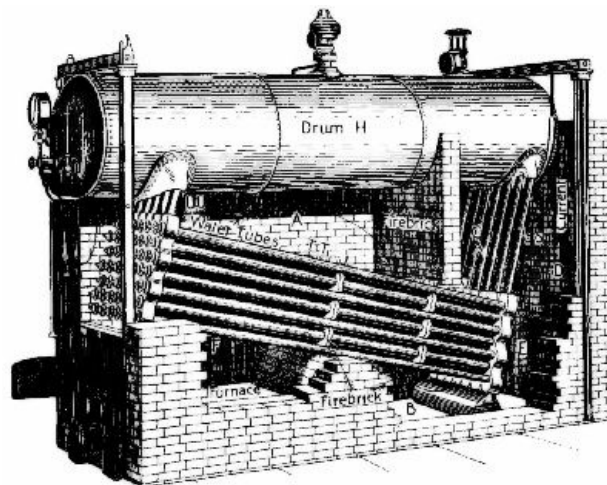

FIG. 7.—The Babcock and Wilcox water-tube boiler. One side of the brick seating has been removed to show the arrangement of the water-tubes and furnace.
To save room, boilers which have to make steam very quickly and at high pressures are largely composed of pipes. Such boilers we call multitubular. They are of two kinds—(1) *Water-tube* boilers; in which the water circulates through tubes exposed to the furnace heat. The Babcock and Wilcox boiler (Fig. 7) is typical of this variety. (2) *Fire-tube* boilers; in which the hot gases pass through tubes surrounded by water. The ordinary locomotive boiler (Fig. 6) illustrates this form.